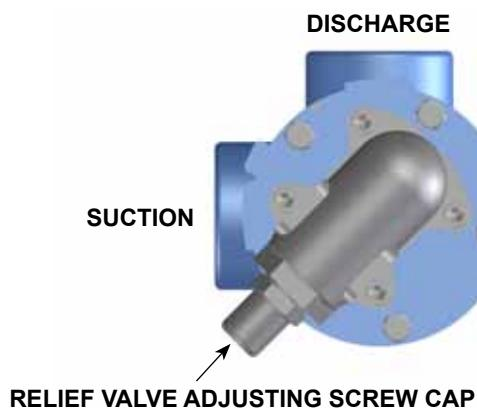

FIGURE 2
- The relief valve adjusting screw cap must always point towards the suction side of the pump, see **Figure 2**. If the pump rotation is reversed, remove the pressure relief valve and turn end for end (see "**Pump Rotation**", page 9).